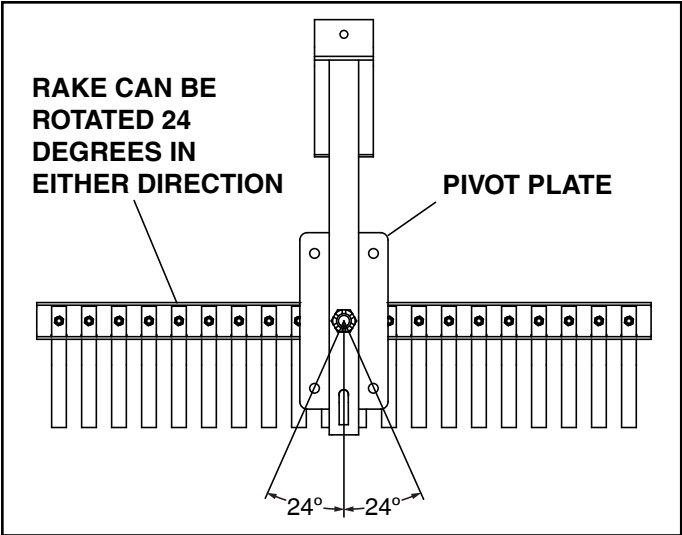

FIGURE 6
- The rake can be angled 24 degrees in either direction as shown in figure 6. To change the angle: